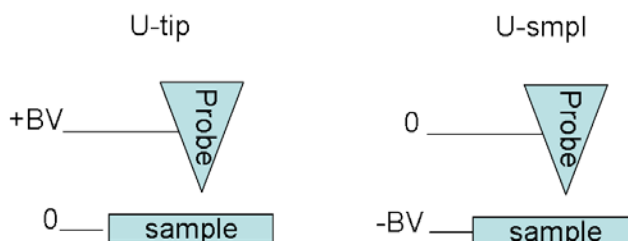

Figure 7.1.8 The schemes of applying bias voltages in **U-tip** and **U-smpl** modes.
Figure 7.1.8 shows schematic drawings of applying bias voltages (BV) at using of **U-tip** or **U-smpl** functions.